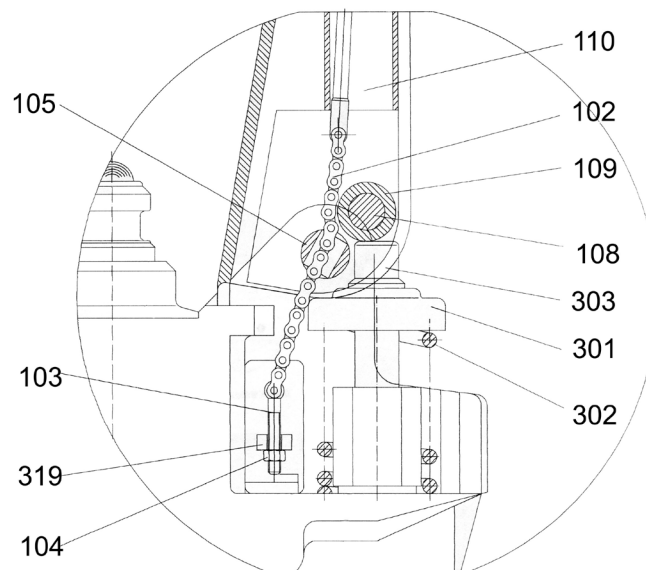

Fig. 3
**2.2** Let control handle(117) to the '**LOWER**' position, then pass the adjusting nut(104), adjusting bolt(103) and chain(102Z) through the hole of axle(105) with your hand (See fig. 3).